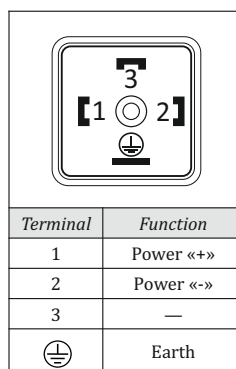

Fig.5. Electrical connections
- After finishing soldering, allow to cool down and reassemble in reverse order and make electrical connections (Fig. 5)